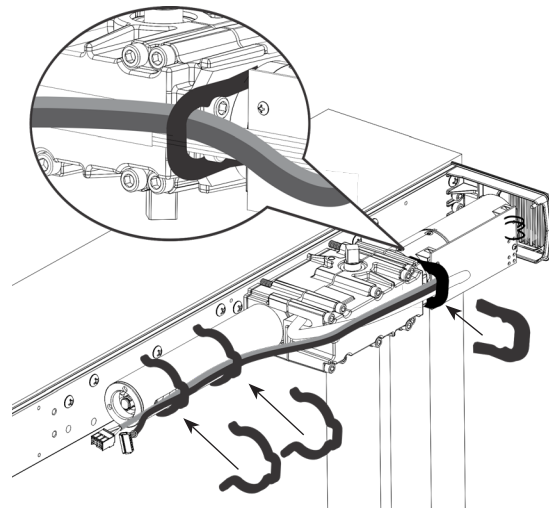

Fig. 10
2. Using three (3) supplied cable management clips, secure cables along operator body. (Fig. 10)